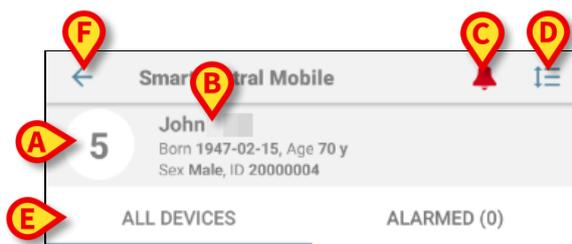
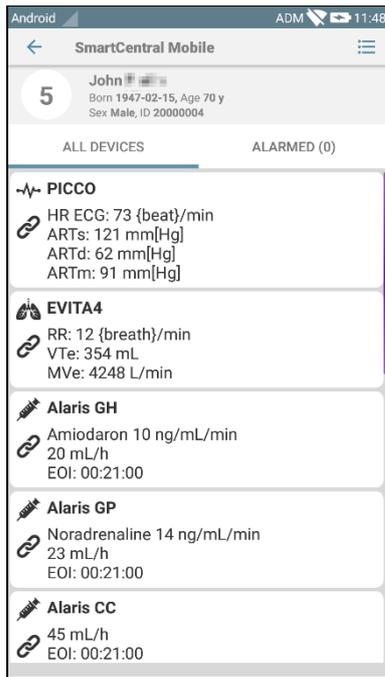

Fig 79
Fig 80
In the heading area (Fig 79) the following information and tools are available:
- Bed number (Fig 79 **A**).
- Patient data (Fig 79 **B**).
- The red bell icon (Fig 79 **C**) indicates that there is at least one medical device alarmed on one of the other beds (those not currently displayed). If the red bell icon is touched, then the Smart Central screen will present the list of alarmed patients.
- Use the icon indicated in Fig 79 **D** to enlarge the device-areas and display more information for each connected medical device (Fig 80). The type of information displayed depends on the configuration and the specific device.
Touch the icon (Fig 79 D) again to go back to compact display mode.
Use the filters indicated in Fig 79 E to display either all the connected medical devices or only the ones providing notifications.
Use the back-arrow button (Fig 79 F) to go back to the “Central” screen.